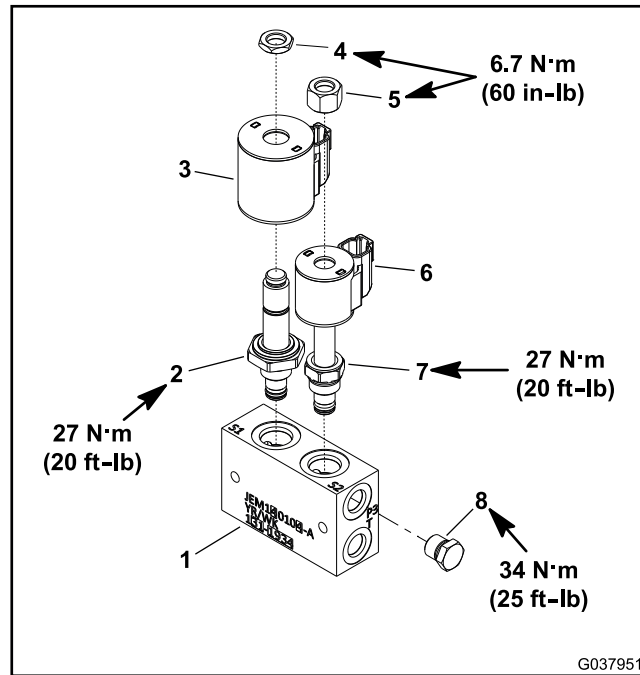
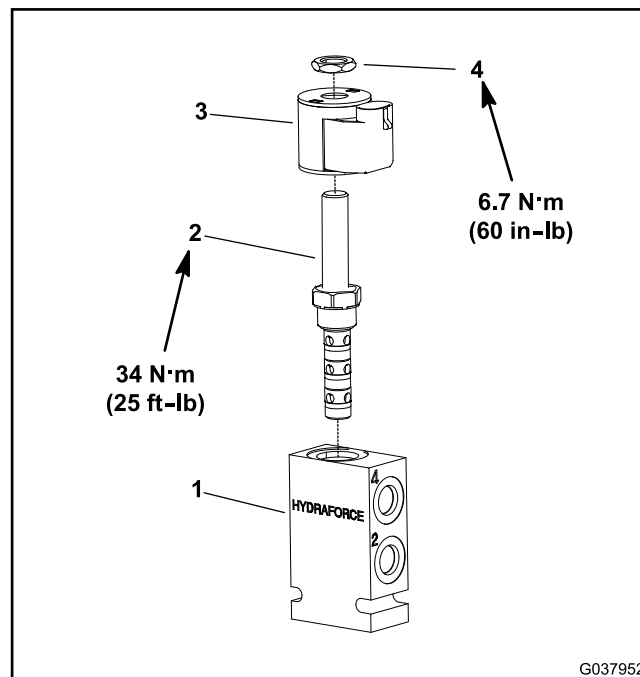

Figure 249
Figure 250
You can replace a hydraulic solenoid valve coil on the deck lift manifold (Figure 249) or steering selector manifold (Figure 250) without opening the hydraulic system.
- A. Raise the operator seat to get access to the deck lift manifold (Figure 249) for the location of solenoid coils on the deck lift manifold.
- B. Raise the operator seat to get access to the steering selector manifold (Figure 250) for the location of solenoid coils on the steering selector manifold.